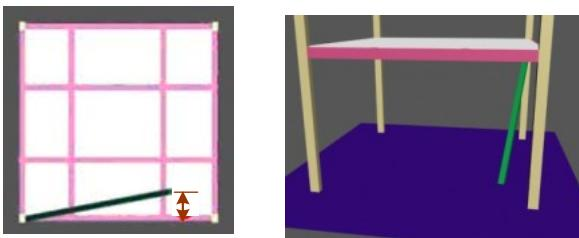

Figure 11. External wall bracing.
- 4.8.2 If on the vertical cross-section, some material inside the building is too close to the external wall, it is considered to be bracing for that wall (refer to Figure 11). This is decided based